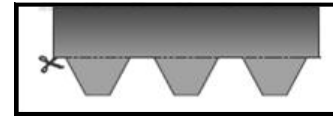

Fig H2
12. Trim the tabs from the bituminous shingle, remove the protection film to form the starter course (Fig H2 & 3)